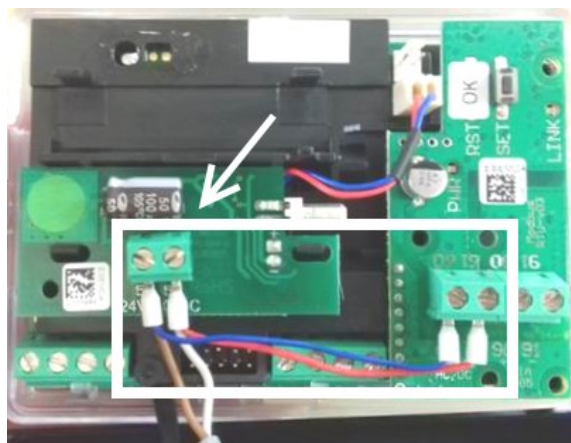

Fig. 5.5 Conencting Modbus/BACnet module to external power supply module.
5. Install the external power supply module according to procedure in p. 5.2.6. and connect additional power cable from external power supply module terminals to the power supply terminals on the Modbus/BACnet module (see Fig. 5.5). The connection is bipolar. For full terminal assignment of the external power supply module see Table 10.2.